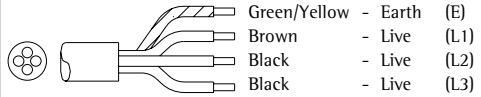
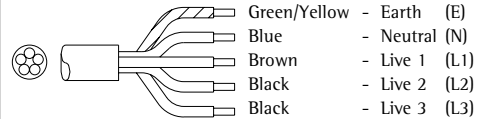

fig. 4
fig. 5
- (Fig. 4) For 220V -240V 3 live (4 core electric cable).
- (Fig. 5) For 380V-415V 3 live/neutral (5 core electric cable).
The four or five core mains cable (fig. 4/ fig. 5) has the following wiring code: